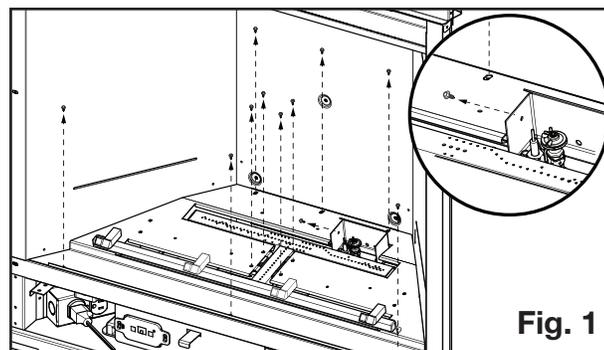

Fig. 1
- 2. Remove 11 screws securing the media tray in place. Lift the tray up and out of the appliance (Fig. 1).